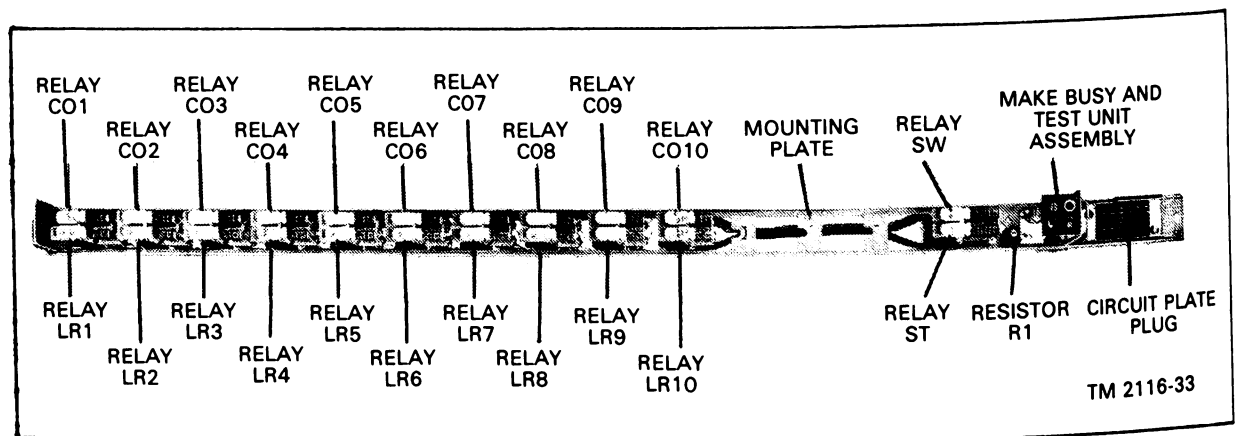

Figure 1. XY Dial Central Office Linefinder Circuit Plate
3. Operate the linefinder's busy switch on the make busy and test unit assembly (fig 1.)